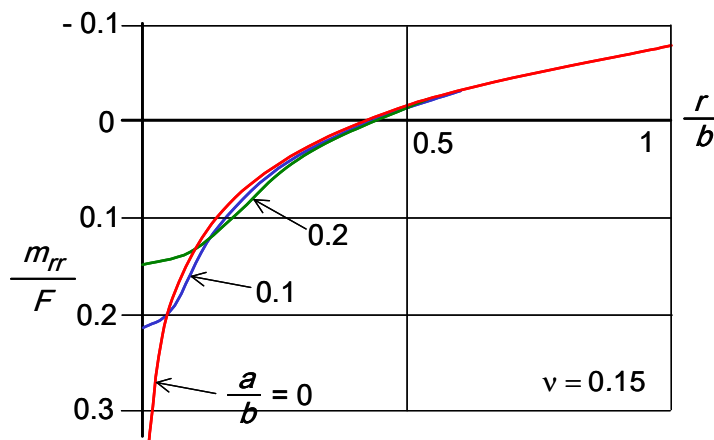

Figure 2. Moment Distributions
- Figure 2 shows the moment distribution in the plate for different values of  $a$ . Is the principle of De Saint Venant valid in this situation? Explain your answer.